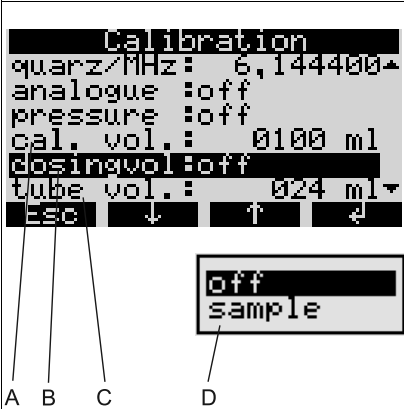

Fig. 23: CALIBRATION menu level
4. In the control system of the device, call up the CALIBRATION menu level (→ Fig. 23; via: SETUP - SERVICE - CALIBRATION).
5. In the CAL.VOL. item (→ Fig. 23, item A), enter the desired calibration volume.
6. Select the "DOSING VOL" item (→ Fig. 23, item B).
7. Start sampling by selecting the SAMPLE function from the picklist (→ Fig. 23, item D). Wait until the sampling cycle is complete.